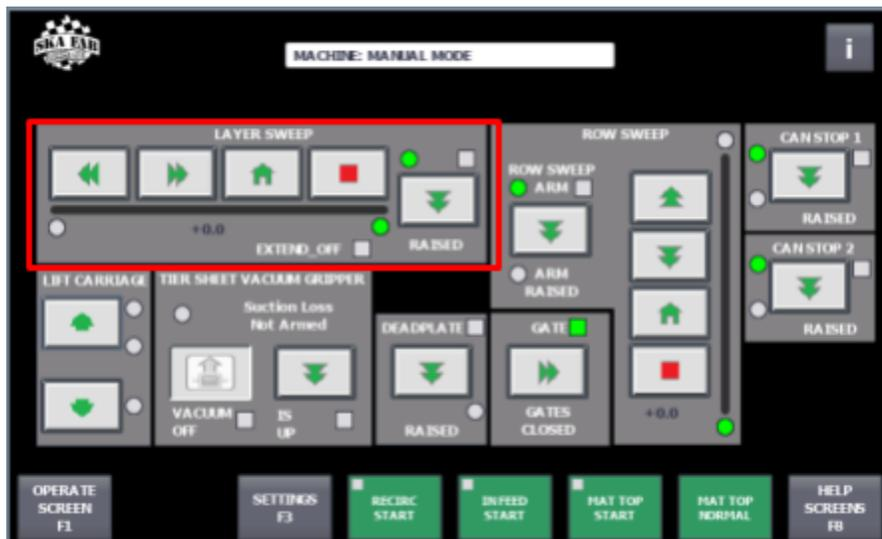

Fig. 24: HMI Screen – Layer Sweep Manual Controls
You will be asked to verify that you want to take manual control (Fig. 24).
1. The Layer Sweep can be manually jogged by holding the LEFT or RIGHT ARROW buttons (Fig. 24). The HOME button automatically returns the sweep to the home position. The STOP button interrupts a homing sequence. The UP/DOWN ARROW button raises and lowers the Layer Sweep.